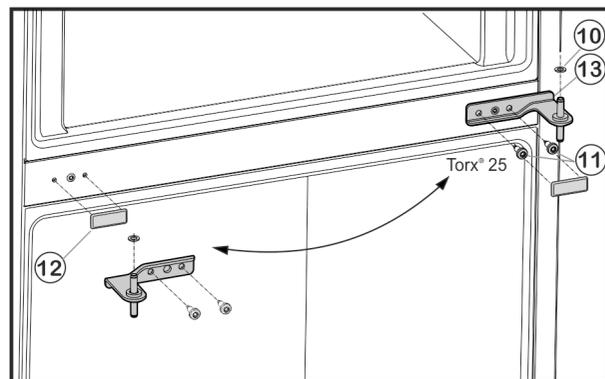

Fig. 6
- ▶ Unscrew the fastening screws Fig. 6 (11) (2 x Torx® 25) and pull the centre bearing block out of the lower door.
- ▶ Remove plastic washer Fig. 6 (10).
- ▶ Remove the cover Fig. 6 (12) carefully.
- ▶ Re-install the cover Fig. 6 (12) on the opposite side.
- ▶ Insert the centre bearing block Fig. 6 (13) turned through 180° into the lower door and fasten firmly (**with 4 Nm**) to the new hinge side with the fastening screws Fig. 6 (11) (2 x Torx® 25).
- ▶ Refit plastic washer Fig. 6 (10).
- ▶ Set the upper door down on the centre bearing block Fig. 6 (13).